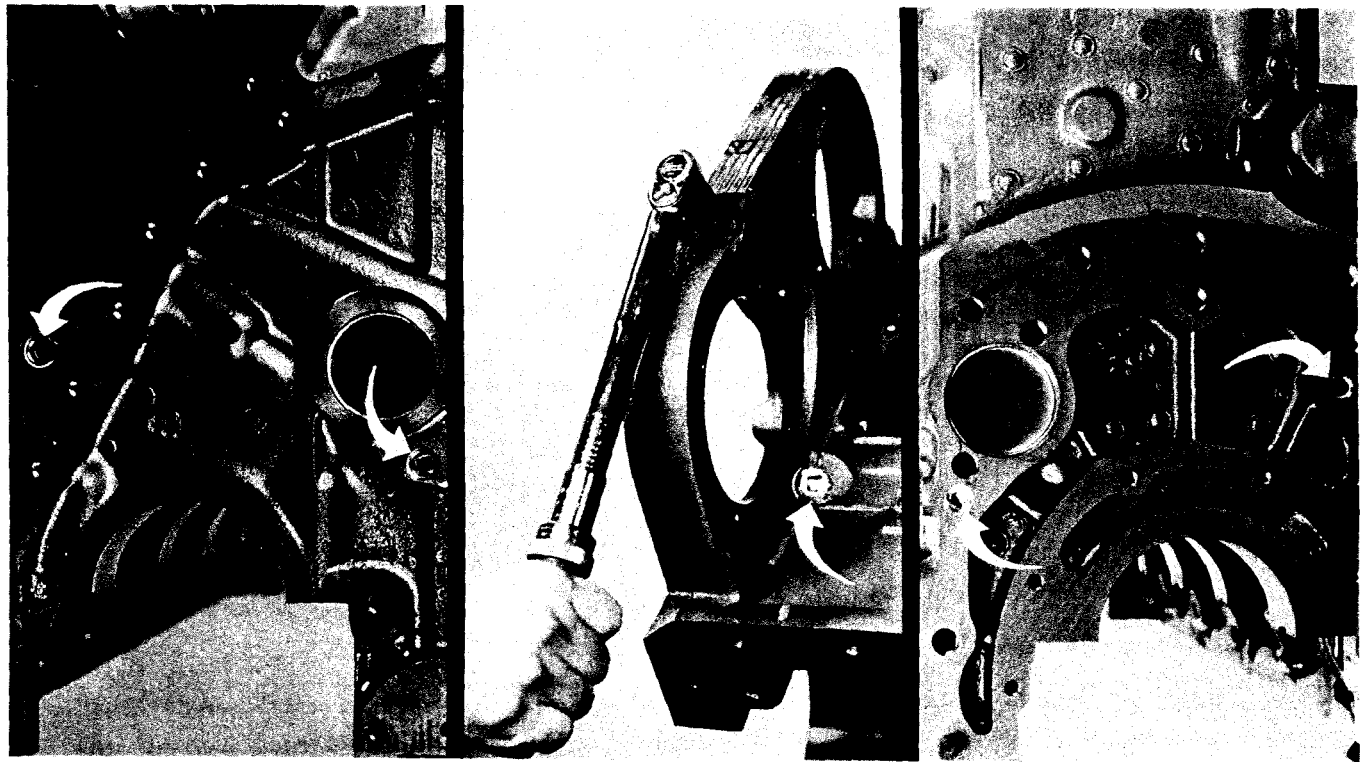

Fig. 14-2, (N114239). Installing pipe plugs
2. Install pipe plugs in cylinder block. Tighten to 60 to 70 ft-lbs [81 to 95 N•m]. Fig. 14-2.